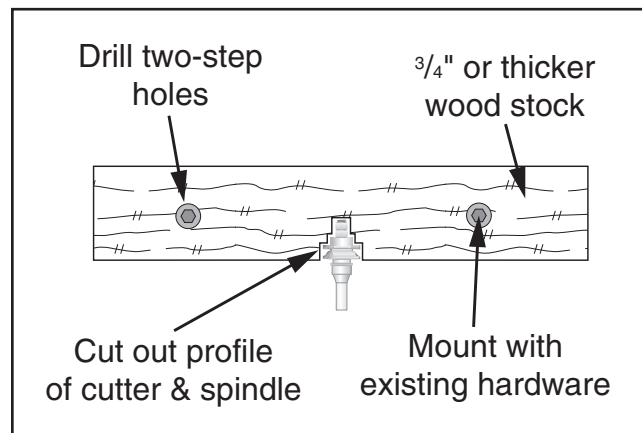

Figure 40. Example of a zero-clearance fence.
5. Cut an outline of spindle and cutter/bit from center of stock, as illustrated in **Figure 40**.